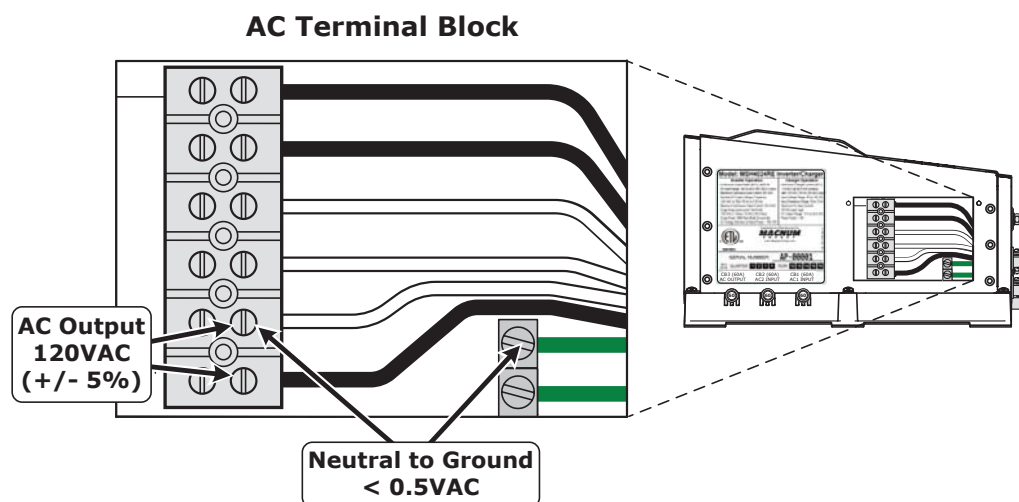

Figure 2-16, AC Voltage Checks
5. Check the AC output voltage of the inverter by connecting an AC voltmeter to the output terminals as shown in Figure 2-16 (verify the correct output voltages).